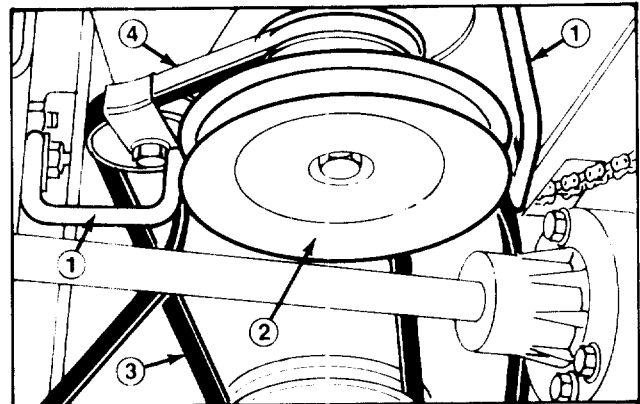

Figure 22
2. Set height-of-cut control to lowest setting and loosen belt guides near engine pulley. Remove belt from engine pulley (Fig. 22).